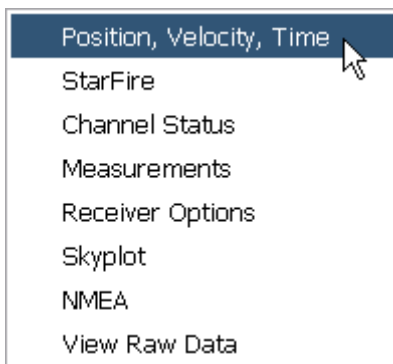
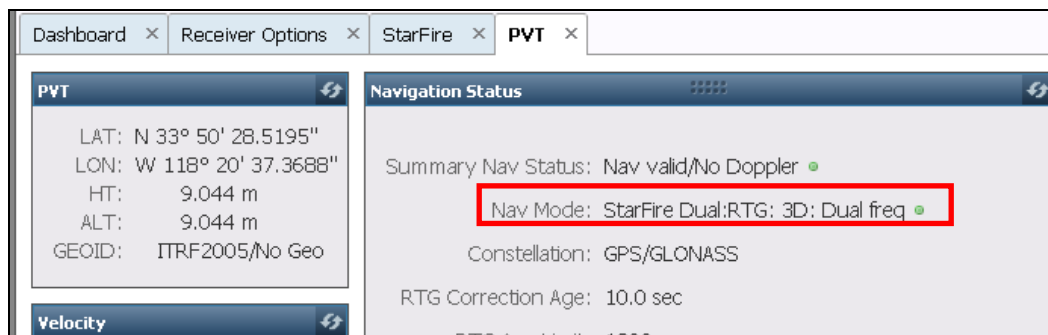

Figure 116: Detailed Views Menu – PVT
Figure 117: PVT Tab – StarFire Dual:RTG Nav Mode
- ✓ Click *Position, Velocity, Time* on the *Detailed Views* menu (see Figure 116) to determine if the receiver is navigating in StarFire mode. The *PVT* tab opens (see Figure 117).